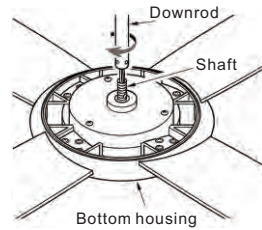
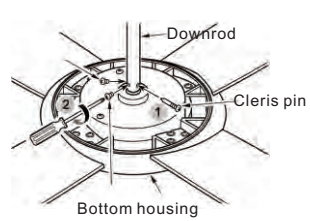

Fig.8
Fig.9
Step 3: Thread the rod into the motor shaft, tighten the set screw, clevis pin. (Fig. 8 & Fig. 9)